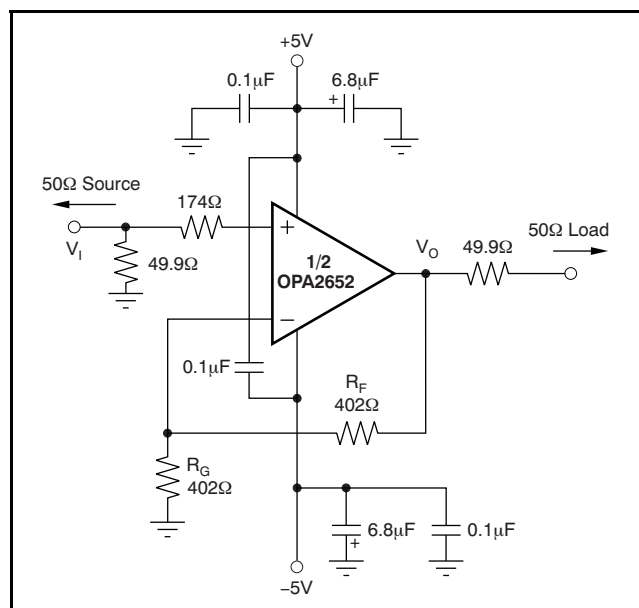
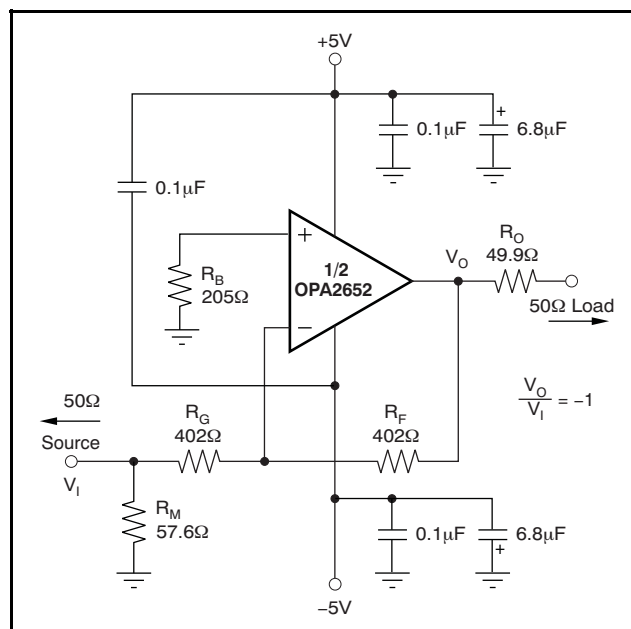

Figure 28. DC-Coupled, $G = +2$, Bipolar Supply, Specification and Test Circuit
Figure 29. DC-Coupled, $G = -1$, Bipolar Supply, Specification and Test Circuit
At $T_A = +25^\circ C$, $G = +2$, $R_F = 402\Omega$, and $R_L = 100\Omega$, unless otherwise noted. See Figure 28 and Figure 29 for AC performance only.
At $T_A = +25^\circ\text{C}$, $G = +2$, $R_F = 402\Omega$, and $R_L = 100\Omega$, unless otherwise noted. See Figure 28 and Figure 29.
At $T_A = +25^\circ C$, $G = +2$, $R_F = 402\Omega$, and $R_L = 100\Omega$, unless otherwise noted. See Figure 28 and Figure 29.
Figure 28 shows the DC-coupled, gain of +2, dual power-supply circuit configuration used as the basis of the $\pm 5\text{V}$ specifications and typical characteristics. This configuration is for one channel. The other channel is connected similarly. For test purposes, the input impedance is set to 50Ω with a resistor to ground and the output impedance is set to 50Ω with a series output resistor.
Voltage swings reported in the specifications are taken directly at the input and output pins, while output powers (dBm) are at the matched 50Ω load. For the circuit of Figure 28, the total effective load will be $100\Omega \parallel 804\Omega$. Two optional components are included in Figure 28.
Figure 29 shows the DC-coupled, gain of -1 , bipolar supply circuit configuration that is the basis of the specifications and typical characteristics at $G = -1$. The input impedance matching resistor (57.6Ω) used for testing gives a 50Ω input load. A resistor (205Ω) connects the noninverting input to ground. This configuration provides the DC source resistance matching to cancel outputs errors arising from input bias current.
A good rule of thumb is to target the parallel combination of R_F and R_G (see Figure 28) to be less than approximately 300Ω. The combined impedance $R_F \parallel R_G$ interacts with the inverting input capacitance, placing an additional pole in the feedback network, and thus a zero in the forward response. Assuming a 2pF total parasitic on the inverting node, holding $R_F \parallel R_G < 300\Omega$ keeps this pole above 250MHz. By itself, this constraint implies that the feedback resistor R_F can increase to several kΩ at high gains. This increase is acceptable as long as the pole formed by R_F and any parasitic capacitance appearing in parallel is kept out of the frequency range of interest.
Voltage feedback op amps exhibit decreasing closed-loop bandwidth as the signal gain is increased. In theory, this relationship is described by the Gain Bandwidth Product (GBP) shown in the specifications. Ideally, dividing GBP by the noninverting signal gain (also called the Noise Gain, or NG) predicts the closed-loop bandwidth. In practice, this prediction only holds true when the phase margin approaches 90°, as it does in high gain configurations. At low gains (increased feedback factor), most amplifiers exhibit a wider bandwidth and lower phase margin. The OPA2652 is compensated to give a flat response in a noninverting gain of 1 (see Figure 28). This configuration results in a typical gain of +1 bandwidth of 700MHz, far exceeding that predicted by dividing the 200MHz GBP by NG = 1. Increasing the gain
Because the OPA2652 is a general-purpose, wideband voltage feedback op amp, all of the familiar op amp application circuits are available to the designer. Inverting operation is one of the more common requirements and offers several performance benefits. Figure 29 shows a typical inverting configuration.
In the inverting configuration, three key design consideration must be noted. First, the gain resistor (R_G) becomes part of the signal channel input impedance. If input impedance matching is desired (which is beneficial whenever the signal is coupled through a cable, twisted pair, long PCB trace or other transmission line conductor), R_G may be set equal to the required termination value and R_F adjusted to give the desired gain. This approach is the simplest, and results in optimum bandwidth and noise performance. However, at low inverting gains, the resulting feedback resistor value can present a significant load to the amplifier output. For an inverting gain of –1, setting R_G to 50Ω for input matching eliminates the need for R_M but requires a 50Ω feedback resistor. This configuration has the interesting advantage that the noise gain becomes equal to 2 for a 50Ω source impedance—the same as the noninverting circuits considered above. However, the amplifier output now sees the 50Ω feedback resistor in parallel with the external load. In general, the feedback resistor should be limited to the 200Ω to 1.5kΩ range. In this case, it is preferable to increase both the R_F and R_G values as shown in Figure 29, and then achieve the input matching impedance with a third resistor (R_M) to ground. The total input impedance becomes the parallel combination of R_G and R_M .
The second major consideration, touched on in the previous paragraph, is that the signal source impedance becomes part of the noise gain equation and influences the bandwidth. For the example in Figure 29, the R_M value combines in parallel with the external 50Ω source impedance, yielding an effective driving impedance of $50\Omega \parallel 57.6\Omega = 26.8\Omega$. This impedance is added in series with R_G for calculating the noise gain (NG). The resulting NG is 1.94 for Figure 29 (an ideal source would cause NG = 2.00).
error, as a result of the input bias currents, is reduced to (Input Offset Current) • R_F . If the 50 Ω source impedance is DC-coupled in Figure 29, the total resistance to ground on the inverting input will be 429 Ω . Combining this in parallel with the feedback resistor gives 208 Ω , which is close to the $R_B = 205\Omega$ used in Figure 29. To reduce the additional high-frequency noise introduced by this resistor, it is sometimes bypassed with a capacitor. As long as $R_B < 300\Omega$, the capacitor is not required since its total noise contribution is much less than that of the op amp input noise voltage.
The OPA2652 provides good distortion performance into a 100 Ω load on $\pm 5V$ supplies. Increasing the load impedance improves distortion directly. Remember that the total load includes the feedback network; in the noninverting configuration (Figure 28), this is sum of $R_F + R_G$, while in the inverting configuration, it is only R_F . Also, providing an additional supply decoupling capacitor (0.1 μF) between the supply pins (for bipolar operation) improves the 2nd-order distortion slightly (3dB to 6dB).
Evaluating these two equations for the OPA2652 circuit and component values shown in Figure 28 gives a total output spot noise voltage of $17\text{nV}/\sqrt{\text{Hz}}$ and a total equivalent input spot noise voltage of $8.4\text{nV}/\sqrt{\text{Hz}}$. This noise includes the noise added by the bias current cancellation resistor (205Ω) on the noninverting input. This total input-referred spot noise voltage is only slightly higher than the $8\text{nV}/\sqrt{\text{Hz}}$ specification for the op amp voltage noise alone. This result will be the case as long as the impedances appearing at each op amp input are limited to the previously recommend maximum value of 300Ω . Keeping both $(R_F \parallel R_G)$ and the noninverting input source impedance less than 300Ω satisfies both noise and frequency response flatness considerations. Since the resistor-induced noise is relatively negligible, additional capacitive decoupling across the bias current cancellation resistor (R_B) for the inverting op amp configuration of Figure 29 is not required.
The balanced input stage of a wideband voltage feedback op amp allows good output DC accuracy in a wide variety of applications. Although the high-speed input stage does require relatively high input bias current (typically $4\mu\text{A}$ out of each input terminal), the close matching between them may be used to significantly reduce the output DC error caused by this current. This reduction is done by matching the DC source resistances appearing at the two inputs. This matching reduces the output DC error resulting from the input bias currents to the offset current times the feedback resistor. Evaluating the configuration of Figure 28, using worst-case $+25^\circ\text{C}$ input offset voltage and current specifications, gives a worst-case output offset voltage equal to:
As an example, compute the maximum T_J using an OPA2652E (SOT23-8 package) in the circuit of Figure 28 operating at the maximum specified ambient temperature of +85°C and with both outputs driving 2.5V_{DC} into a grounded 100Ω load.